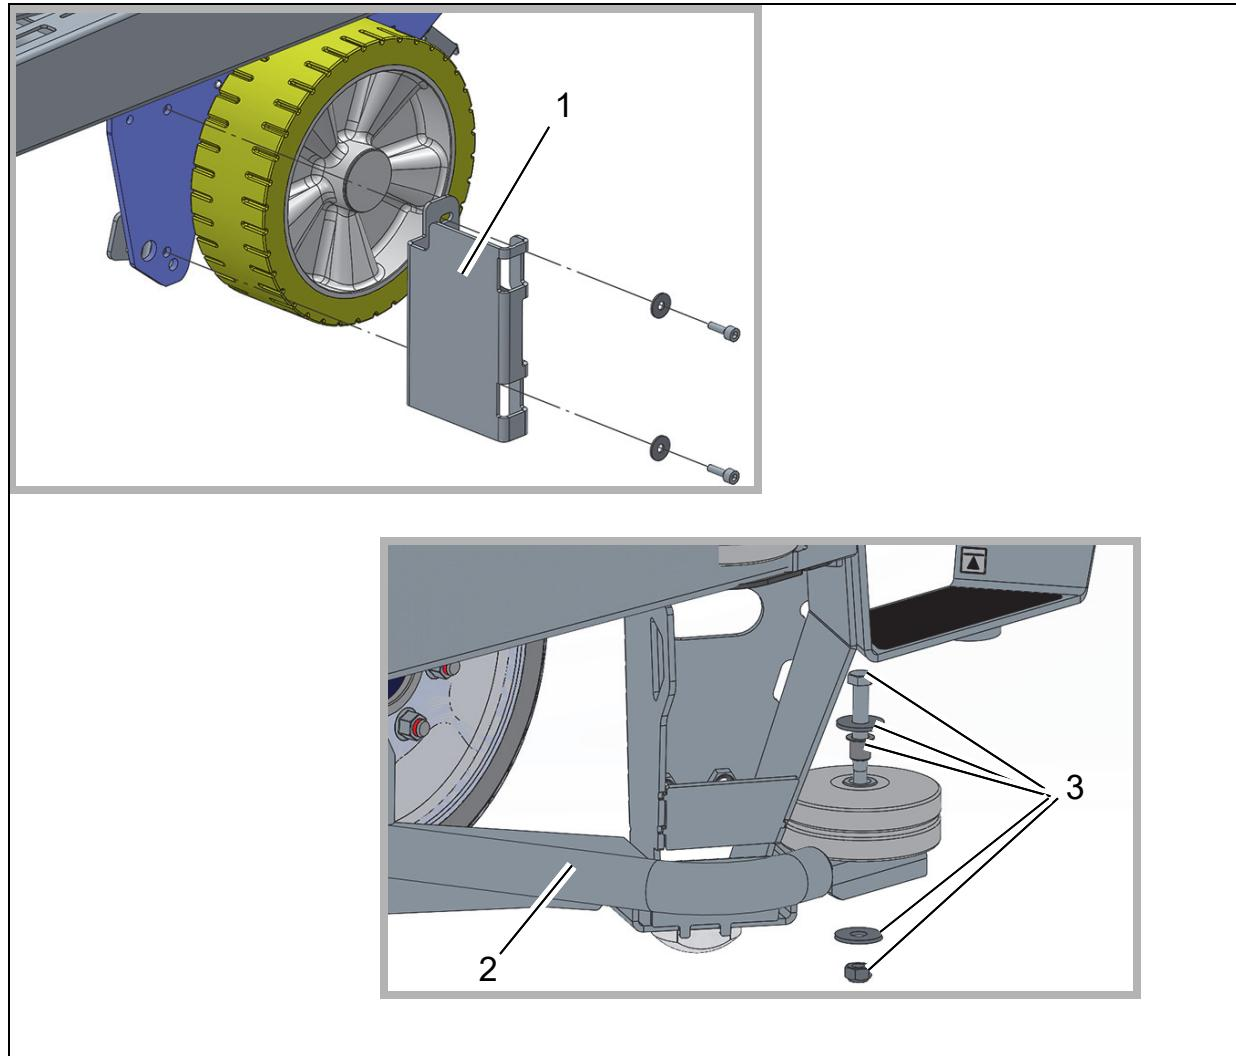

Fig. 2
1. In front of the left rear wheel, assemble the left-hand holder (Fig. 2/1) with the two cylinder-head bolts and washers.
On the existing front collision protection (Fig. 2/2), disassemble the roller lock (consisting of: hexagon head bolt, 2 washers, bushing and nut) on both sides (Fig. 2/3).